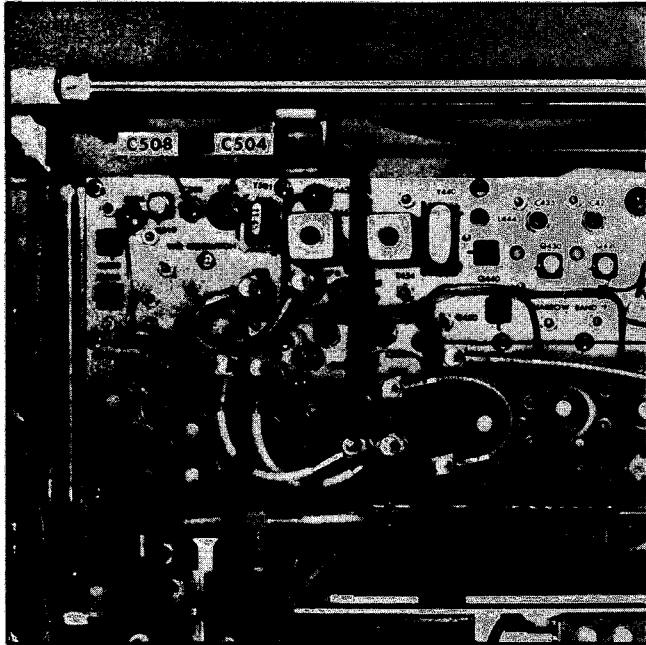

Fig. 6-27. Location of C504 and C508.
i. Set, the RESOLUTION selector fully clockwise. Adjust C504 and C508 (Fig. 6-27) for optimum display symmetry on the test oscilloscope See Fig. 6-25. Adjust C504 for the slope of the response and C508 for symmetry. Turn the RESOLUTION selector counterclockwise one step from fully clockwise position. Adjust C601, C604, C607 and C610 for optimum display symmetry and amplitude.